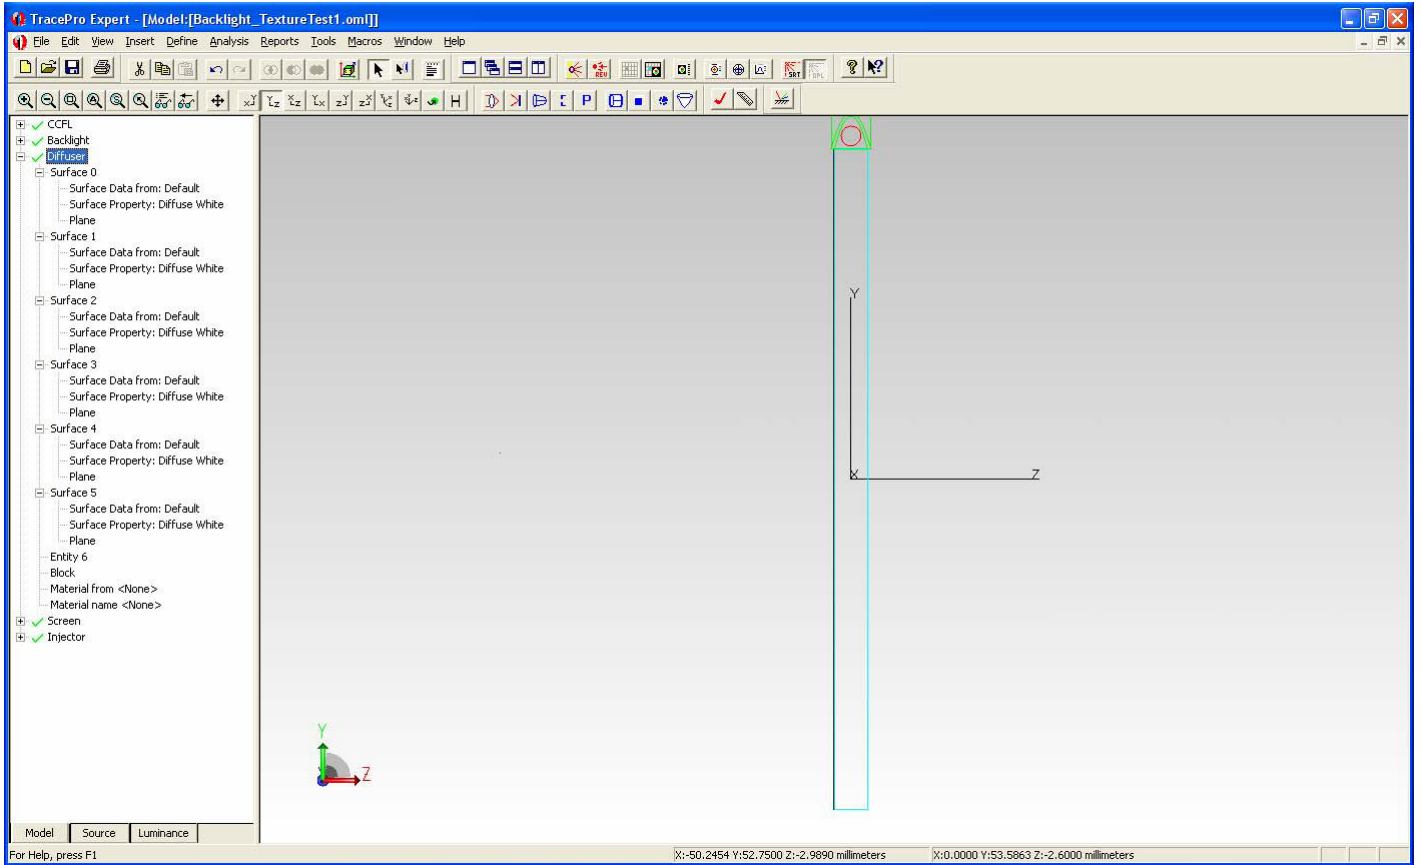

Figure 15. System Tree for the surfaces of the Diffuser.
11. As per Fig. 15, inspect the System Tree such that the properties for Diffuser are as shown (Note: Fig. 15 also shows all of the other objects that we will define in this section.)